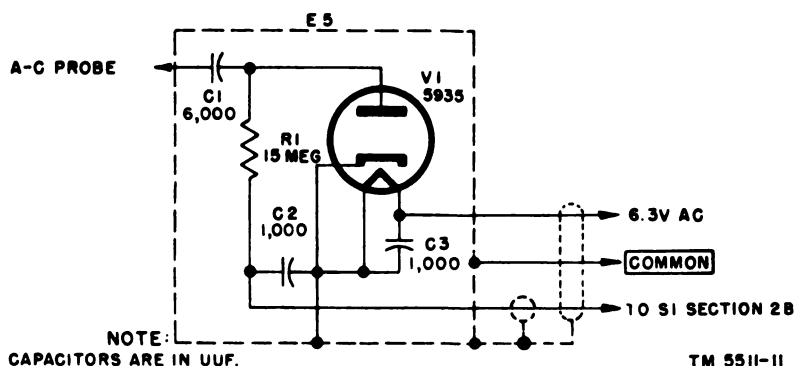

Figure 11. A-c probe, schematic diagram.
e. A-C PROBE. The a-c probe (figs. 11, 20, and 21) consists of a diode mounted in a holder. In addition, there is a coupling capacitor, a coupling resistor, and bypass capacitors. The diode acts as a rectifier which changes the applied ac to dc. The dc is then applied to the
a. The a-c probe (figs. 11, 20, and 21) consists of a diode mounted in a special holder to enable the probe to make accurate measurements at high frequencies. The a-c probe (fig. 11) consists of a diode (V1) connected in the circuit as a shunt half-wave rectifier, an input coupling capacitor (C1), an input resistor (R1), and bypass capacitors (C2 and C3). Because of the high value of the input resistor (15 megohms) and the input capacitor (6,000 uuf), the diode is essentially a peak indicating rectifier. The scale of the instrument is calibrated to read rms volts for a sine wave input. For nonsinusoidal input voltages, the instrument reads .707 of the peak value. Diode V2 (6AL5) acts as a balancing diode and is used to buck out the contact potential of V1 with no input applied